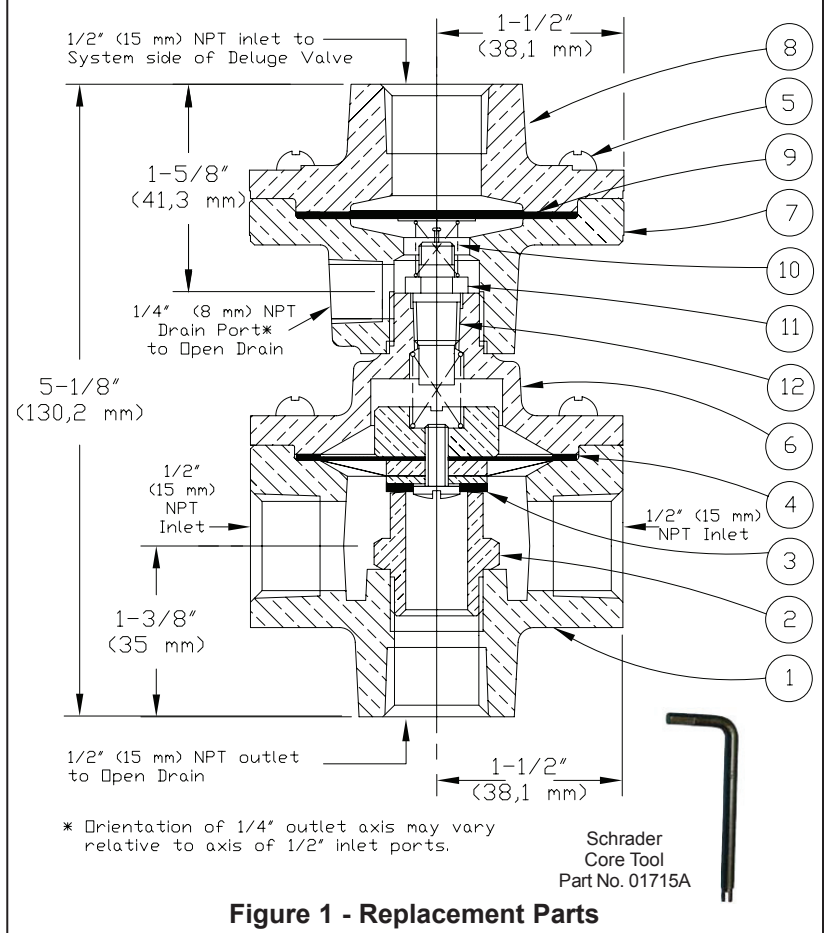

Figure 1 - Replacement Parts
B. DISASSEMBLY: (Refer to Figure 1)